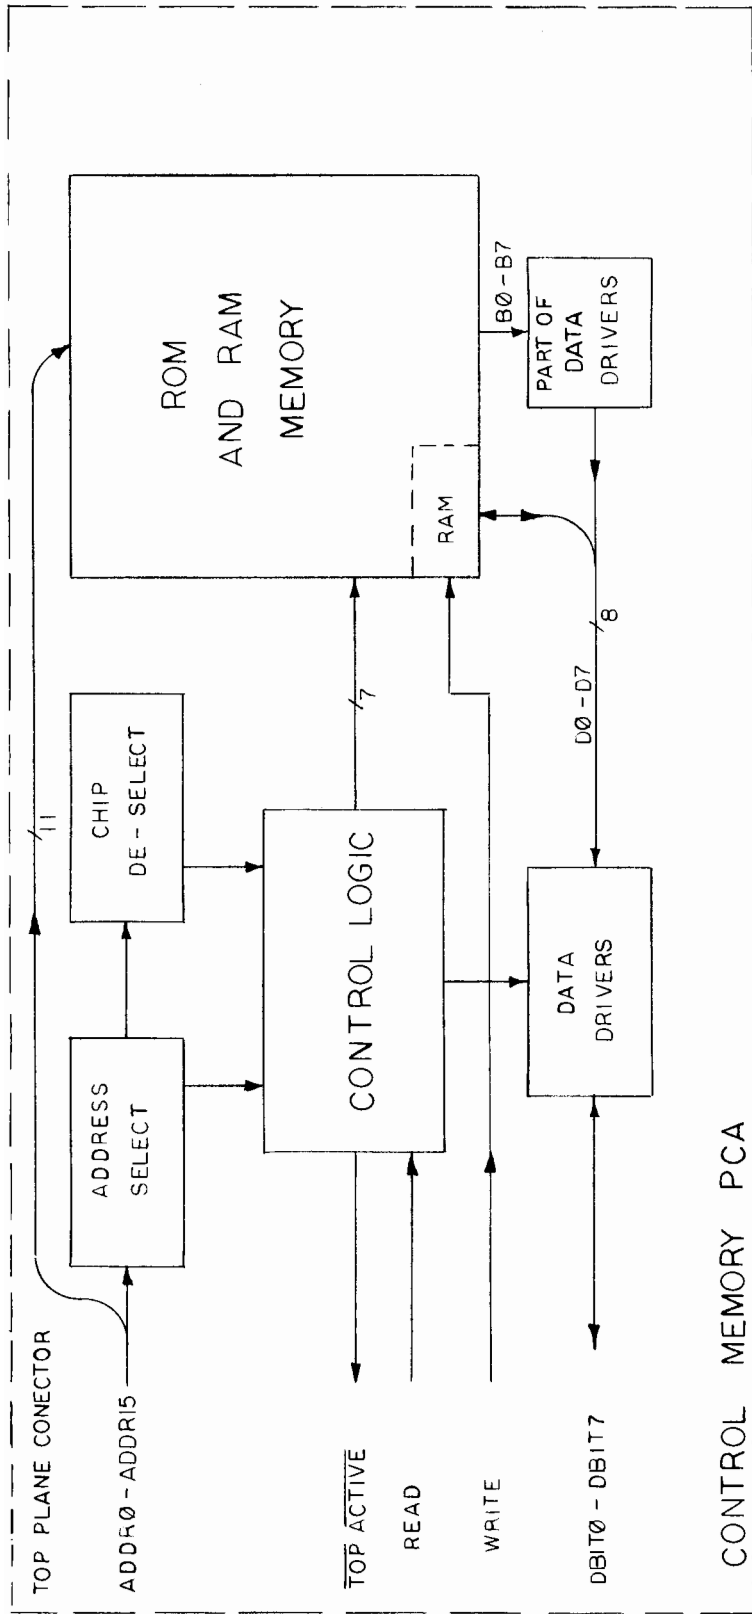

Figure 1
3.0 FUNCTIONAL DESCRIPTION. Refer to the block diagram (figure 1), schematic diagram (figure 2), timing diagram (figure 3), component location diagram (figure 4), and parts list (02640-60192) located in the appendix.